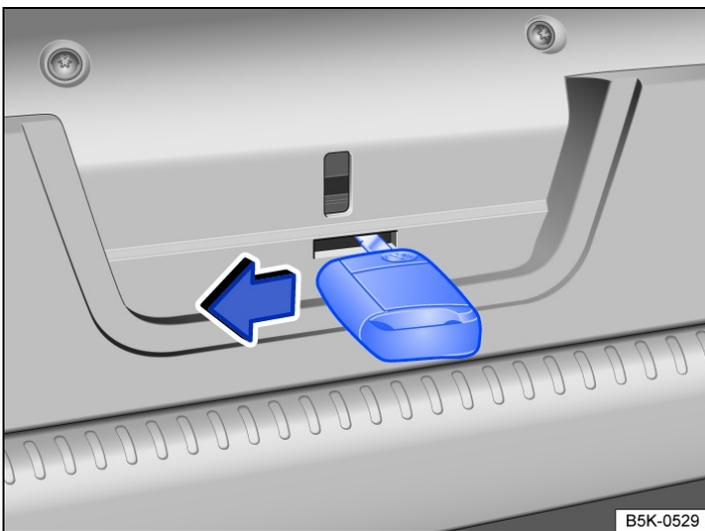

Fig. 2 In the boot lid: manual release mechanism for the boot lid.
- Insert the key bit in the tailgate opening → *Fig. 2* and press the release lever in the direction of the arrow.